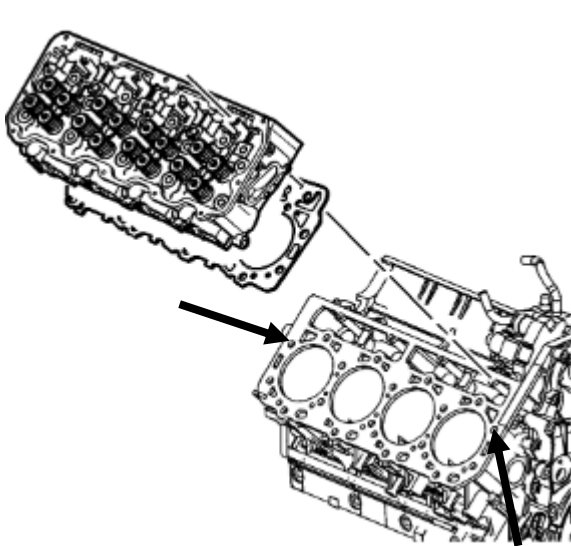

Fig. 63: Passenger side cylinder head removal
- b) Remove the cylinder head assembly and gasket from the engine block. Discard of the cylinder head gasket. Remove and discard of the four OE cylinder head dowels (two per side). The dowel locations are called out using arrows in figures 63 and 64.
STEP 2: Install new block-to-cylinder head dowel pins into the decks at the locations noted by the arrows in figures 63 and 64 on page 25.